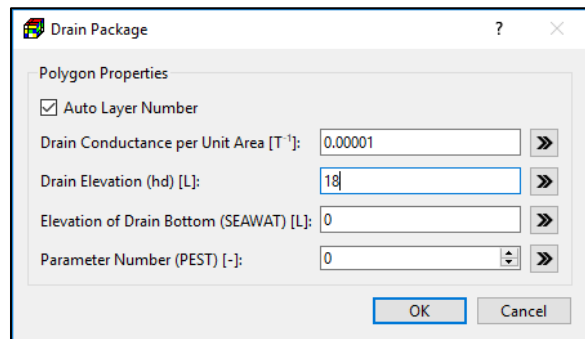

Figure 25. The Drain Package dialog box
- **Edit Polygon Data:** Select this item to display a dialog box for polygon data entry, enter data to the dialog box, then click OK. Most dialog boxes for the polygon data entry contain » buttons next to the data entry fields. Figure 25, for example, shows the Drain Package dialog box with the » buttons. You may click the » button next to a parameter to replace the data of the cells located within the polygon with that parameter value. For packages¹² that support multiple instances of package-specific features in a cell, such as the Well Package, the » buttons only act on existing instances in cells.